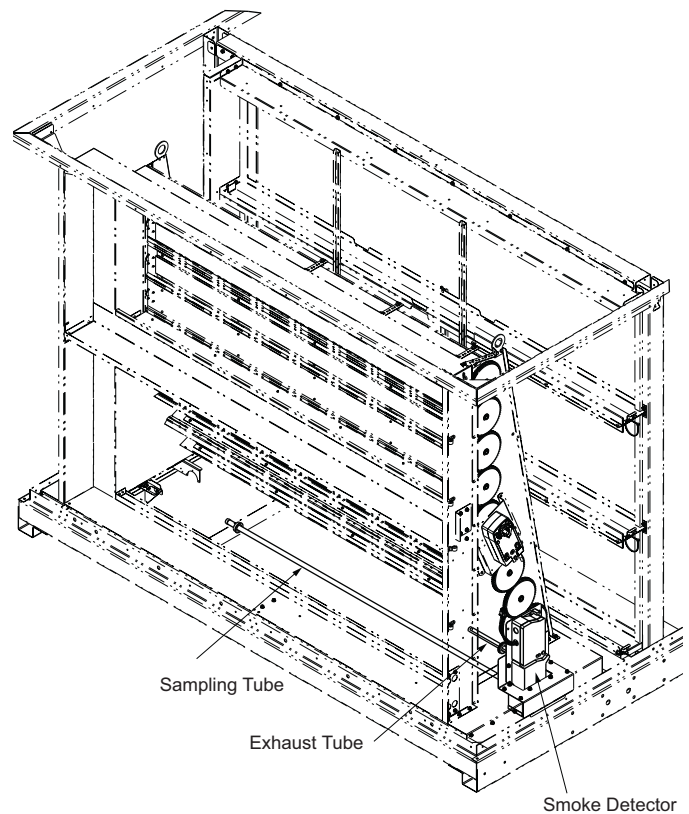

Fig. 9 — Smoke Detector Installed (Compact Chassis with Vertical Return Shown)
See Fig. 9 for return air smoke detector mounting locations on compact chassis with vertical return units only. Follow Steps 1-19 for installation.
Remove the front lower access panels to provide front access to the return air section of the unit. Retain all screws for reinstallation. See Fig. 9 for smoke detector installation example.
8. Insert the smoke detector sensor assembly into the openings in the mounting bracket referenced in Fig. 9 and 11.